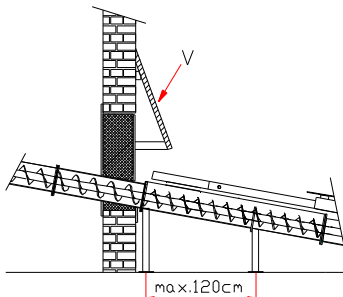

Fig. 7
11.) Using the legs supplied, support the outfeed auger in the storeroom at the mid-point of the auger and where it exits the storeroom (Fig. 7) – the legs should not be more than 120 cm apart.
- 15.) The boarding (V, Fig. 7) over the inspection hatch must be provided on site and prevents uncontrolled spillage of the fuel into the boiler room. A sloping board 3 cm thick and 80 cm wide must be fitted at an angle of approx. 20°, 40 cm above the outfeed auger and 40 cm from the storeroom wall. The structure must be adequately fixed and adequately supported underneath.
The construction of the inspection hatch and the associated wall lining should be carried out as described below and will enable access to the storeroom for the purposes of removing any objects that may be jammed in the auger before the enclosed section of the auger trough. The hatch canopy constructed as per Fig. 7 prevents the stored fuel spilling out when the inspection hatch is opened.